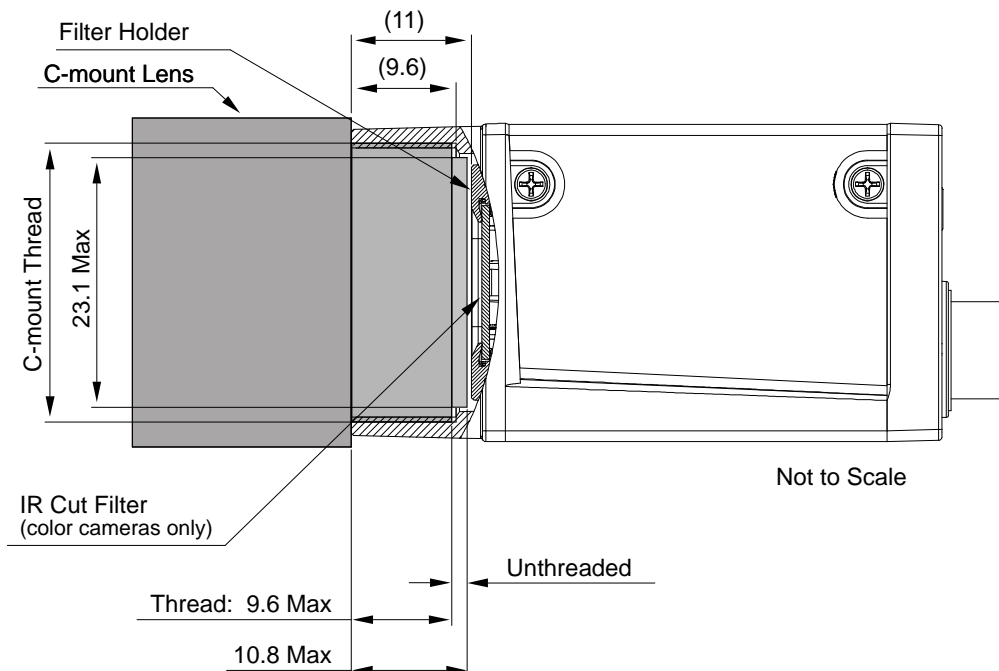

Fig. 19: Maximum Lens Thread Length (Dimensions in mm) for Cameras with the C-mount Lens Adapter
- Camera with C-mount lens adapter (see Figure 19)